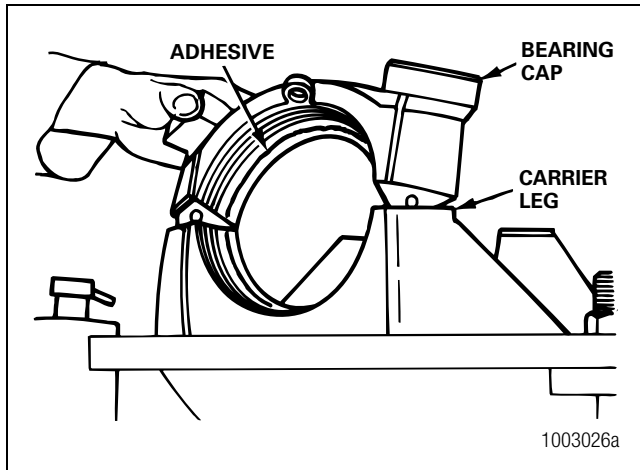

Figure 4.12
3. Apply a single continuous bead of adhesive to the bearing bores in the carrier and bearing caps. Apply the adhesive around the circumference of the smooth, ground surfaces only. Do not apply adhesive on the threaded areas. Figure 4.12.